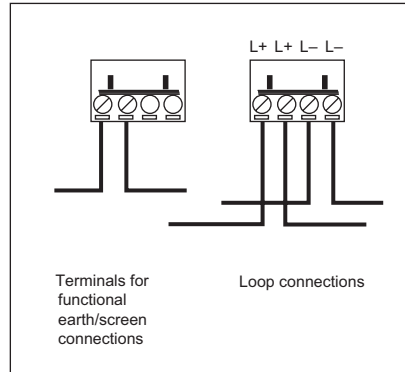

Fig 2 Terminal block connections
2. Run the cables from the loop into the backbox and connect them to the terminal blocks as shown in **Fig 2**. Ensure that functional earth/screen continuity is maintained. Screens should be connected to the yellow terminal block marked 1-4 on the black PCB cover.
5. Unlock the small front cover by inserting the forked key and pushing it home. Remove key, slide the cover down and remove the deformable element. Connect the terminal blocks as shown in **Fig. 2**, secure the call point to the backbox and refit the deformable element as required. Finally, replace the front cover in the reverse order in which it was removed and push it up until it locks.